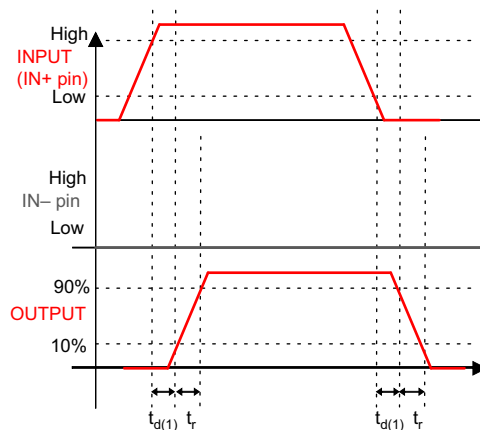
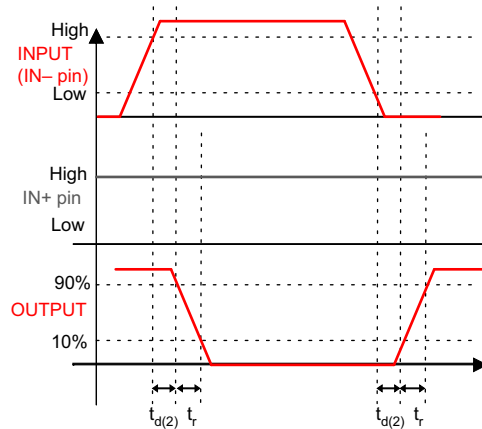

Figure 1. Non-Inverting Configuration (PWM Input to IN+ pin (IN- Pin Tied to GND), Output Represents OUTH and OUTL Pins Tied Together in the UCC27511A)
Figure 2. Inverting Configuration (PWM Input to IN- Pin (IN+ Pin Tied to V_{DD}), Output Represents OUTH and OUTL Pins Tied Together in the UCC27511A)
$V_{DD} = 12\text{ V}$, $T_A = -40^\circ\text{C}$ to 140°C , $1\text{-}\mu\text{F}$ capacitor from V_{DD} to GND. Currents are positive into, negative out of the specified terminal. See Figure 1, Figure 2, Figure 3, and Figure 4
(1) See timing diagrams in Figure 1, Figure 2, Figure 3, and Figure 4.